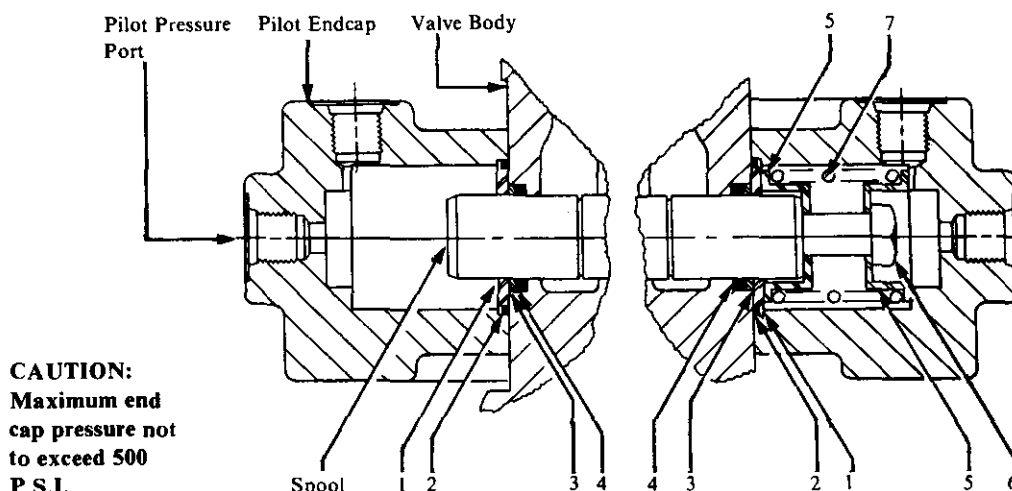

Figure 2 — Pilot Endcaps
Figure 2 illustrates the arrangement of the parts in the pilot operated valve endcaps. The pilot endcaps may be serviced by first removing the two (2) cap